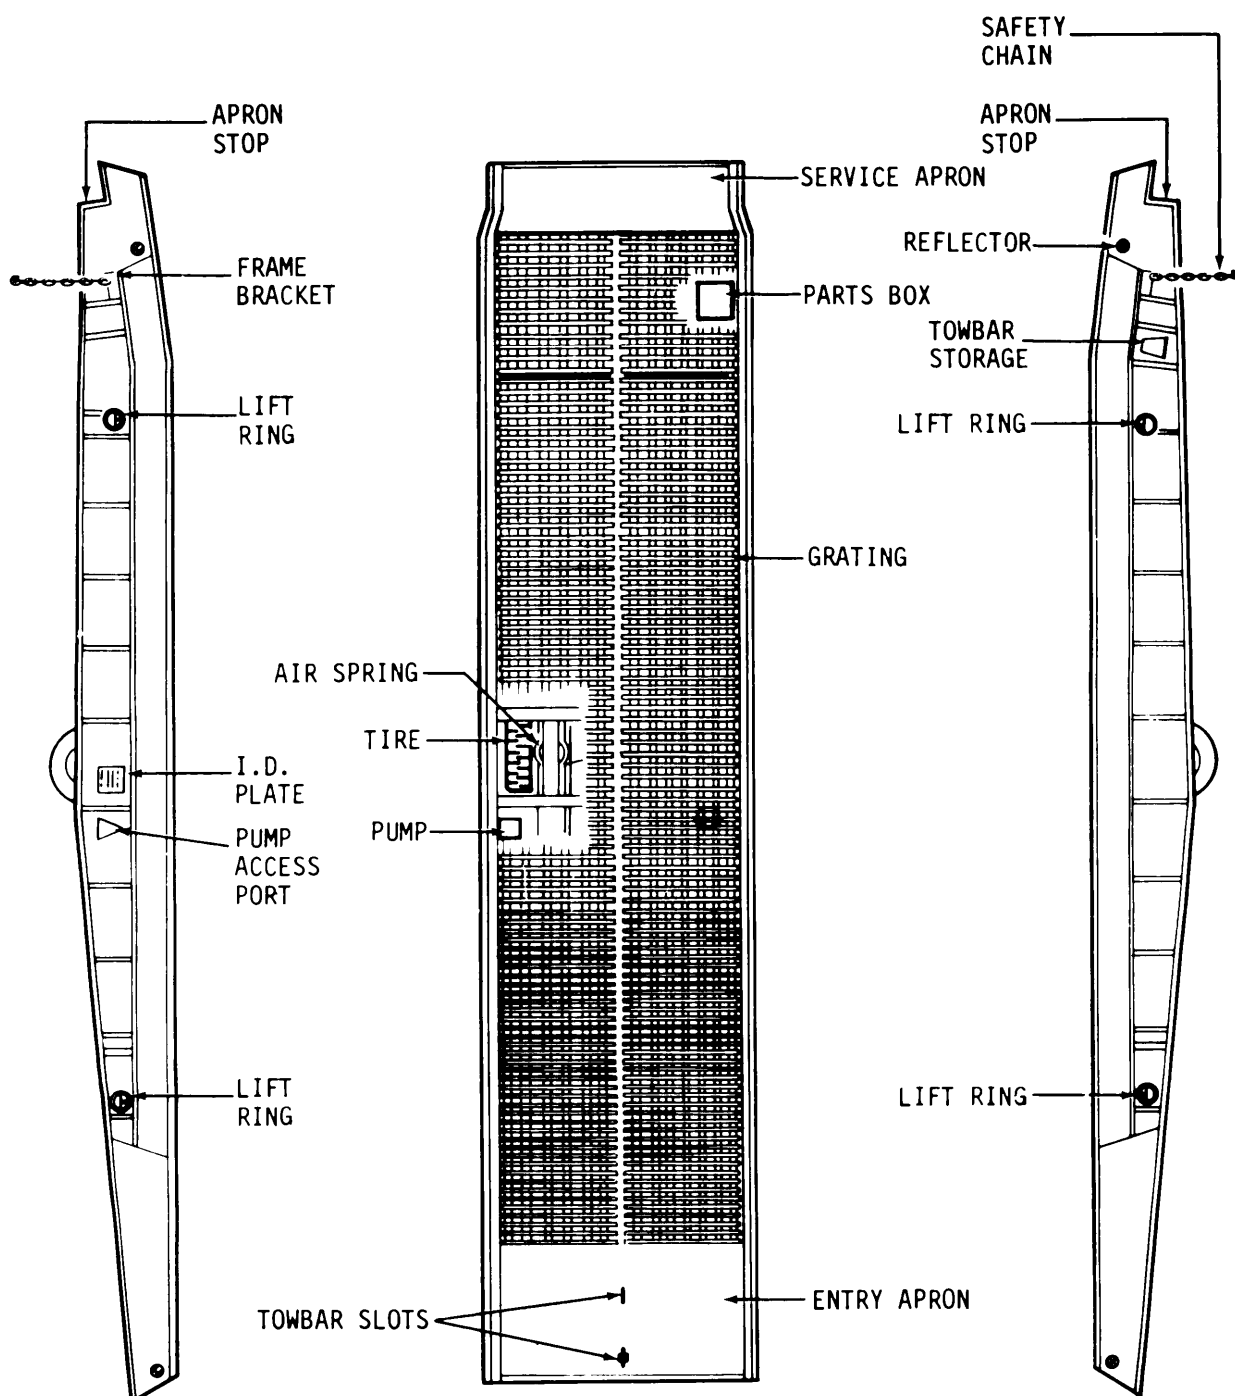
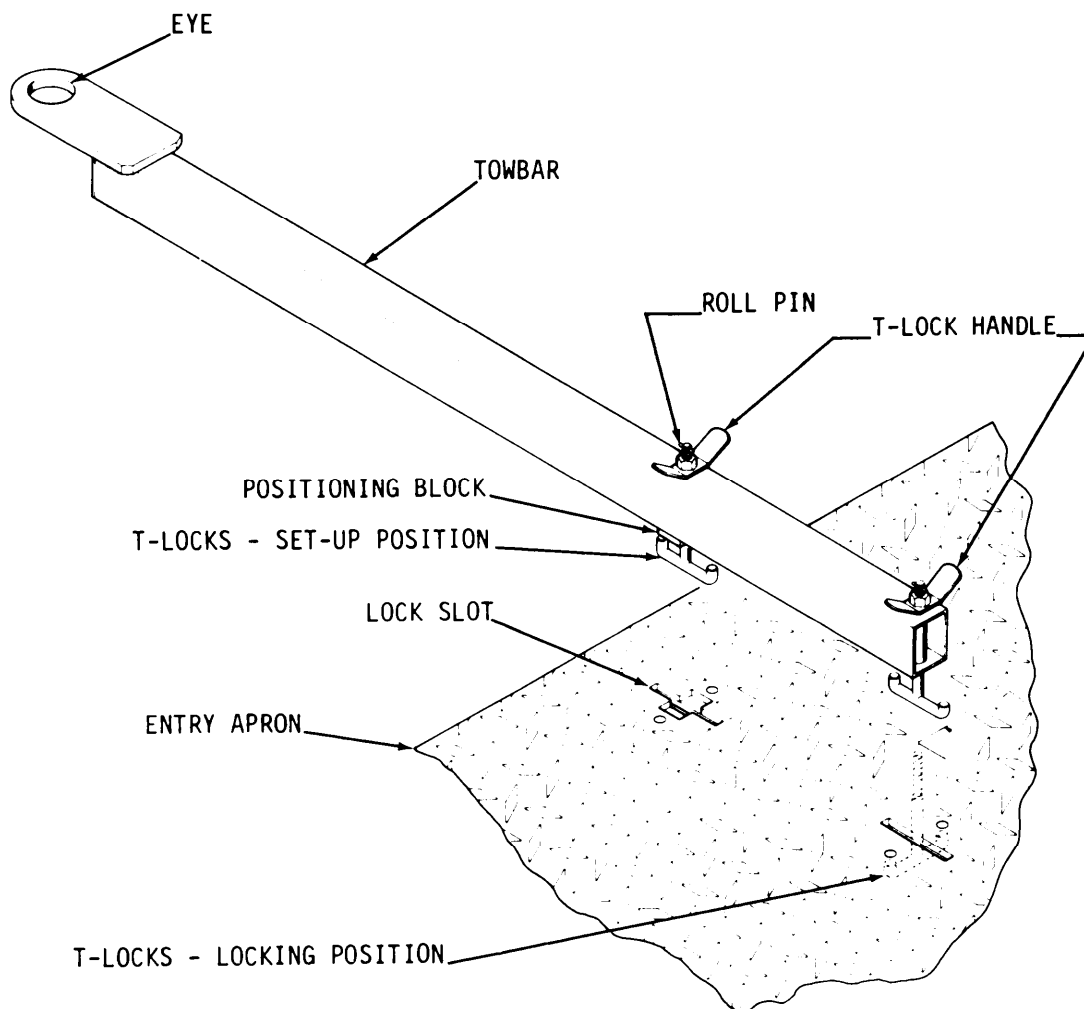

Figure 1-1. Ramp Assemblies
Figure 4-1. Towbar Position
1.1.1 This manual contains instructions for towing, using, and maintaining the Magline Mobile Loading Ramp, Model Number MDS-16-92-36-6F-AS-12C (Fig. 1-1), hereinafter referred to as the ramp. This manual contains descriptions of procedures for inspecting, maintaining, disassembling, repairing, and reassembling:
g. A detachable towbar is utilized and storage is provided in the frame construction (Fig. 1-1). The towbar shall be used with pintle or hook type hitches.
1.5.1 A parts box (Fig. 1-1) is fastened underneath the right side of the grating near the service end. Table 2-1 lists the items packed in the box.
1.6.2 Warranty claims shall be requested by completing DA Form 2407 IAW TM 738-750 and submitted to Commander, US Army TACOM, ATTN: AMSTA-MW, Warren, MI. 48397-5000. Inquiries to DA Form 2407 shall include the ramp serial number, found on the I.D. plate (Fig. 1-1), and the part number of the subject part as identified in the Illustrated Parts List (when applicable).
2.2.2 To change the plug, approach the pump through the pump access port on the left side of the ramp (Fig. 1-1). Using a 7/16 inch box wrench, loosen and remove the shipping plug (Fig. 2-1).
General operating instructions shall be on an instruction plate attached to the ramp near the hydraulic pump (Fig. 1-1).
4.1.1 Remove towbar from the towbar storage compartment on the right side of the ramp (Fig. 1-1). Attach the towbar to the entry apron of the ramp (Fig. 4-1).
b. Place the towbar over the entry apron and align the T-locks with the slots in the apron. Place the towbar into position with the block seated in the plate cutout (Fig. 4-1).